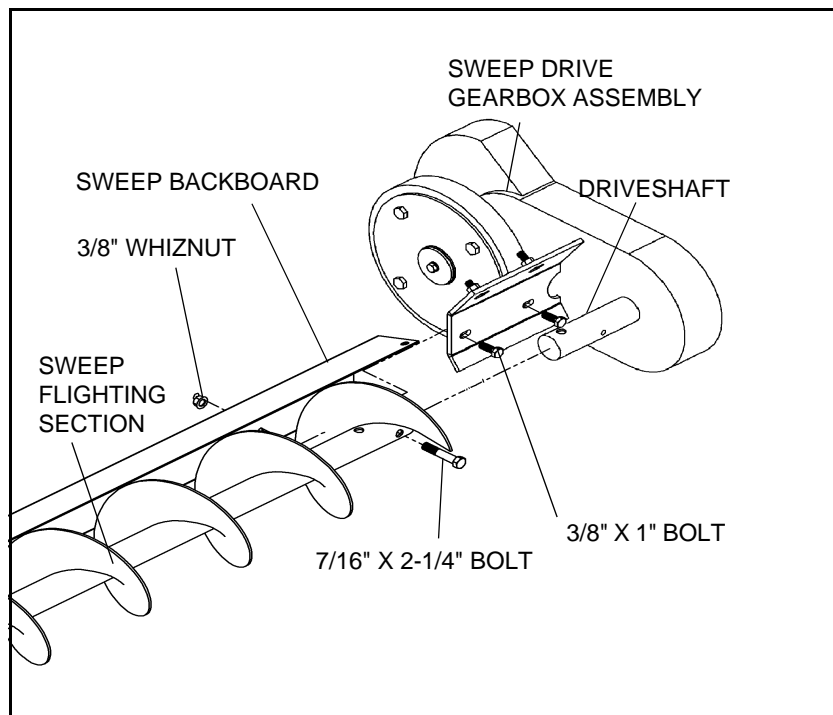

Figure 4.28
1. See **Figure 4.28** to install sweep drive onto the end of sweep sections. The sweep backboard attaches onto the back of the sweep gearbox mount plate using four 3/8" x 1" bolts and whiznuts. Adjust for best fit and tighten securely.